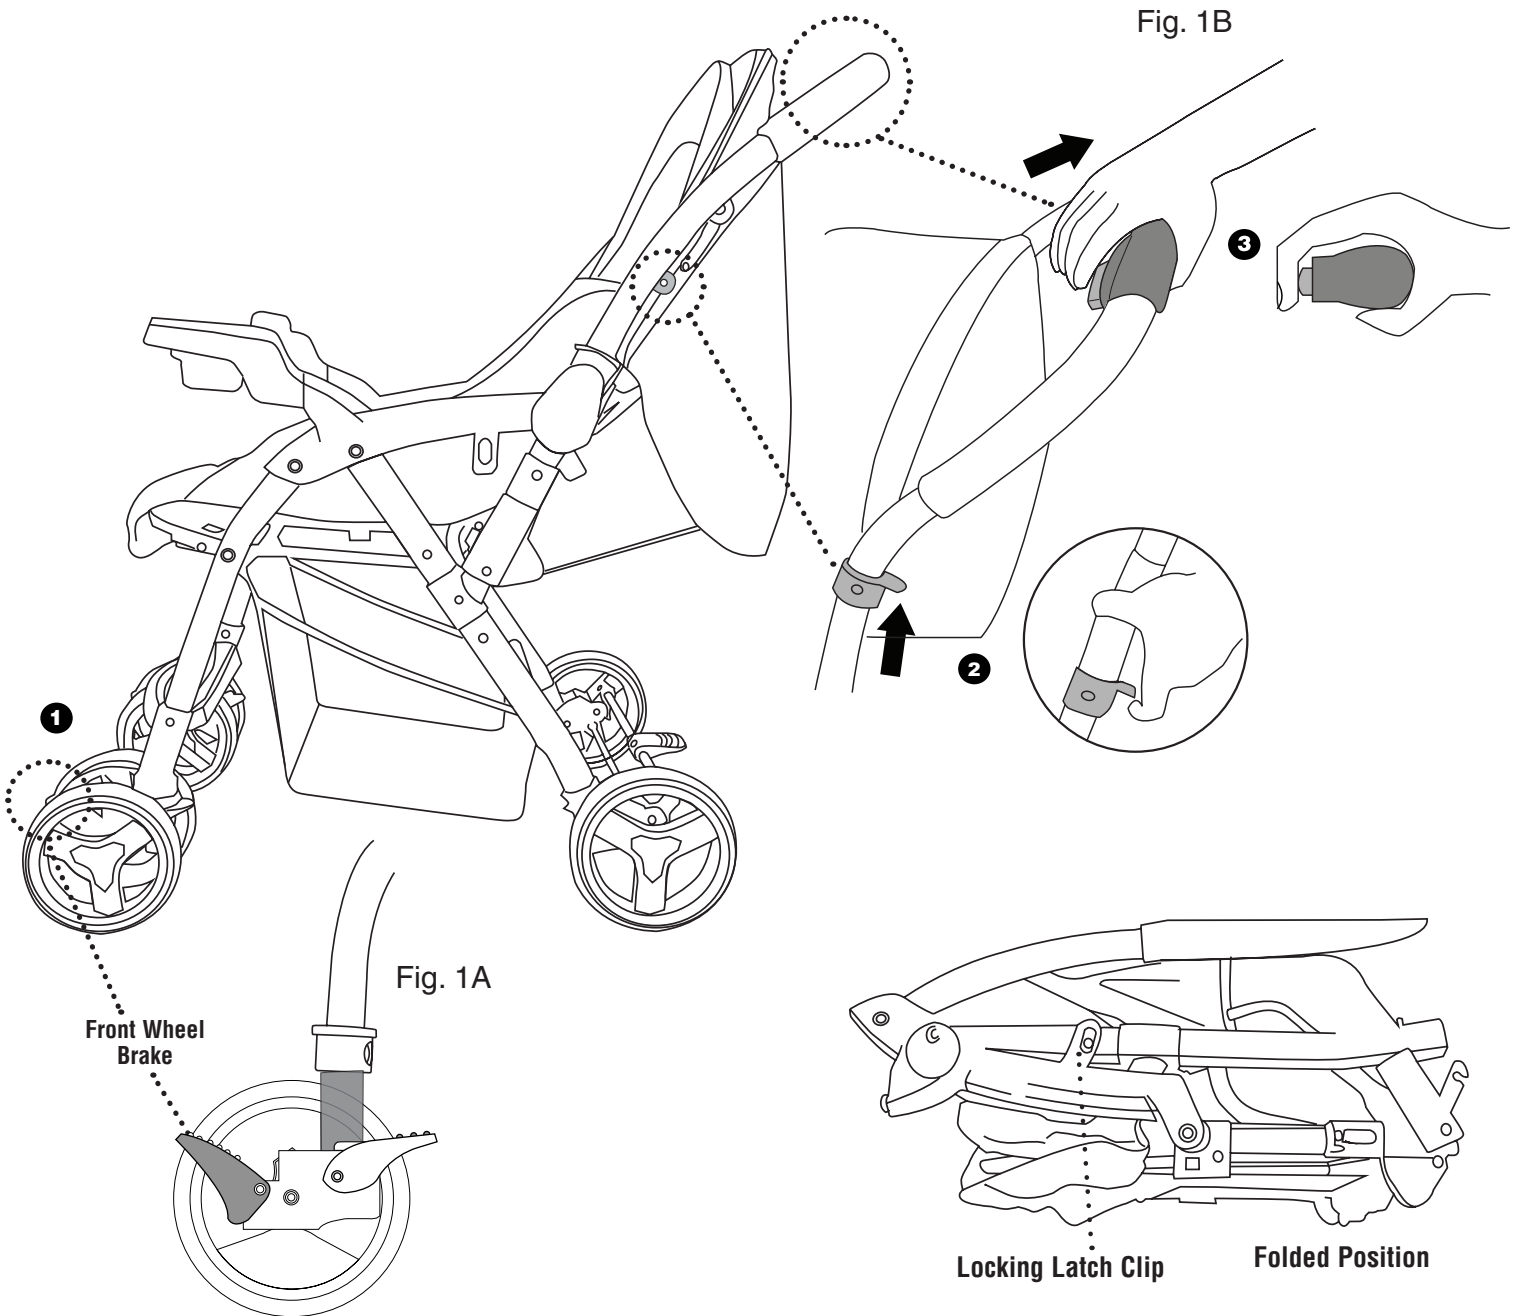

Fig. 1A
- Make sure the front wheel brake is facing forward before folding the stroller **1**. (Fig. 1A)